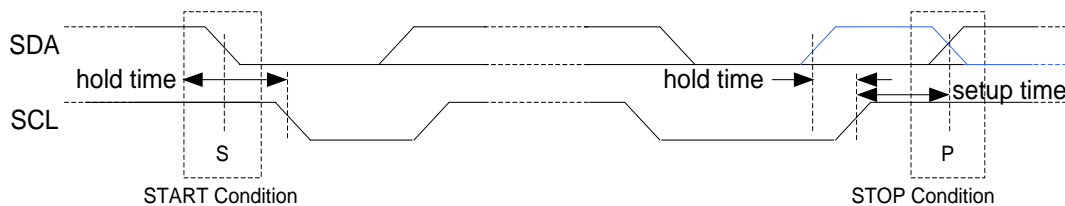

Figure 33. START and STOP (or repeated START, blue line) condition
An idle I²C bus state occurs when both SCL and SDA are not being driven by any master and are therefore in a logic HI state due to the pull up resistors. Every transaction begins with a START (S) signal and ends with a STOP (P) signal. A START condition is defined by a high to low transition on the SDA while SCL is high. A STOP condition is defined by a low to high transition on the SDA while SCL is high. START and STOP conditions are always generated by the master. This slave module also supports repeated START (Sr) condition which is same as START condition instead of STOP condition (the blue-color line shows repeated START in Figure 33).